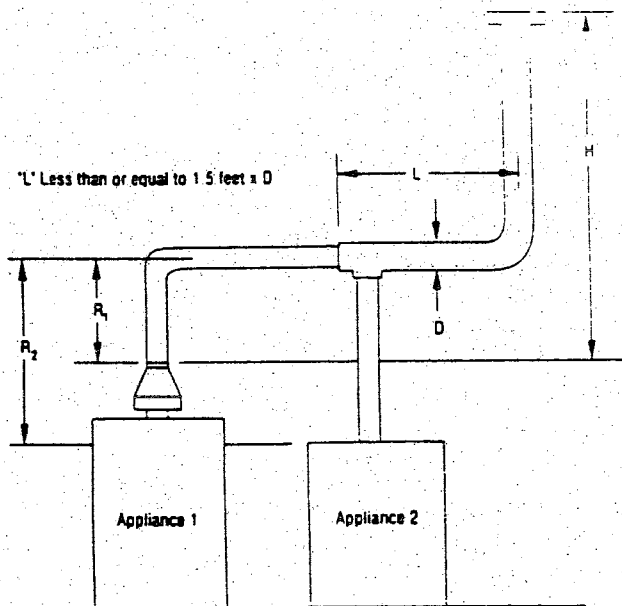

FIGURE 7
5. If vent connectors are combined prior to entering the common vent, the maximum common vent capacity listed in the common venting tables must be reduced by 10%, the equivalent of 1 (one) 90° elbow (0.90 x maximum common vent capacity). See Figure 7. The horizontal length of the common vent connect or manifold (L) should not exceed 1-1/2 feet (18 inches) for each inch of common vent connector manifold diameter.